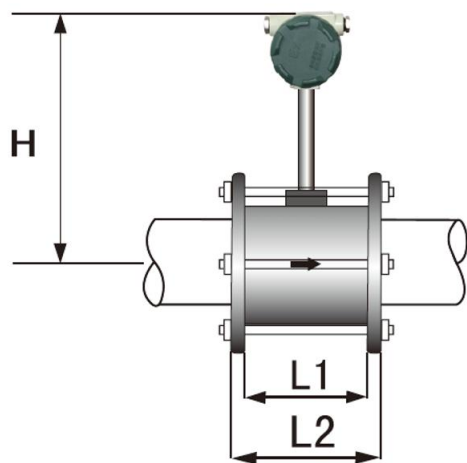
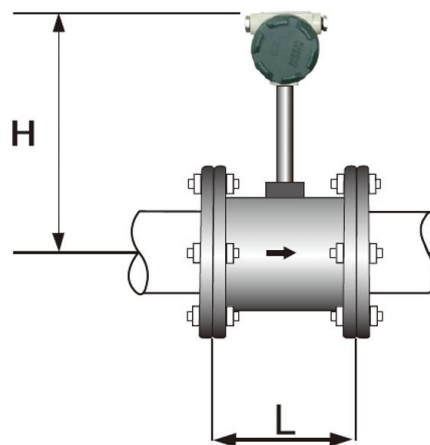

Fig.2 Installation diagram of wafer type
Fig.3 Installation diagram of flange type
The sensor is composed of two parts of the detection meter and the detection amplifier and the connecting rod (Fig.2 and Fig.3)
1.2 Installation and structural dimensions (Fig.2 and Fig.3)